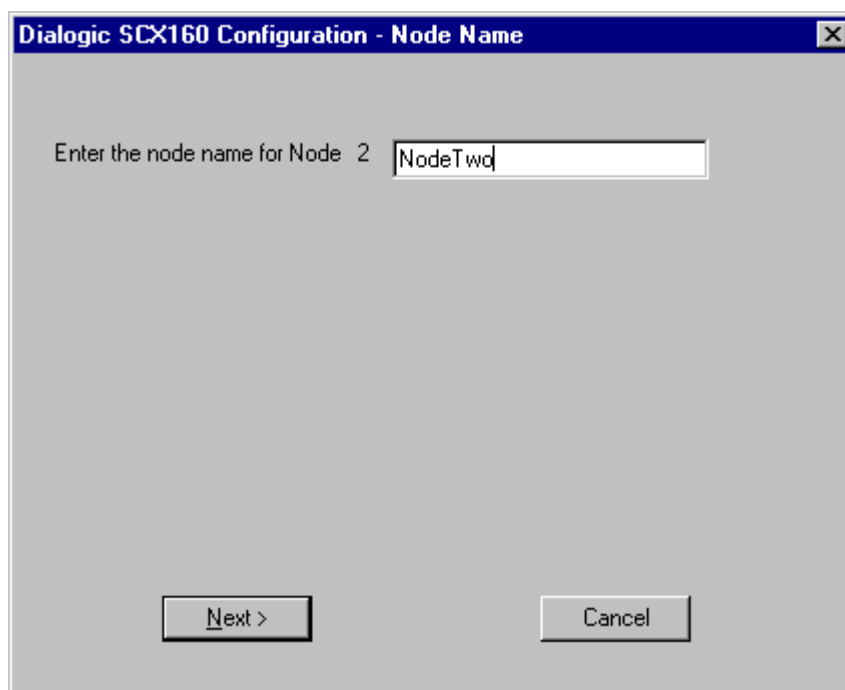

Figure 46. Node Name Window
10. Enter the name of the node in the space provided (see *Figure 46*).